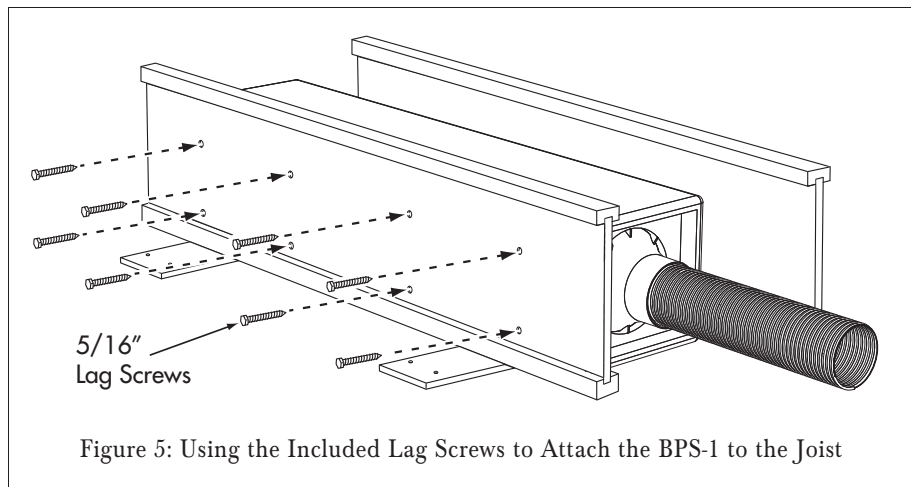

Figure 5: Using the Included Lag Screws to Attach the BPS-1 to the Joist
7. Screw the eight included lag screws through the holes in the joist and into the holes in the side of the BPS-1 cabinet, as shown in *Figure 5*. Use the shorter lag screws for I-joist construction; use the longer lag screws for standard joist construction.